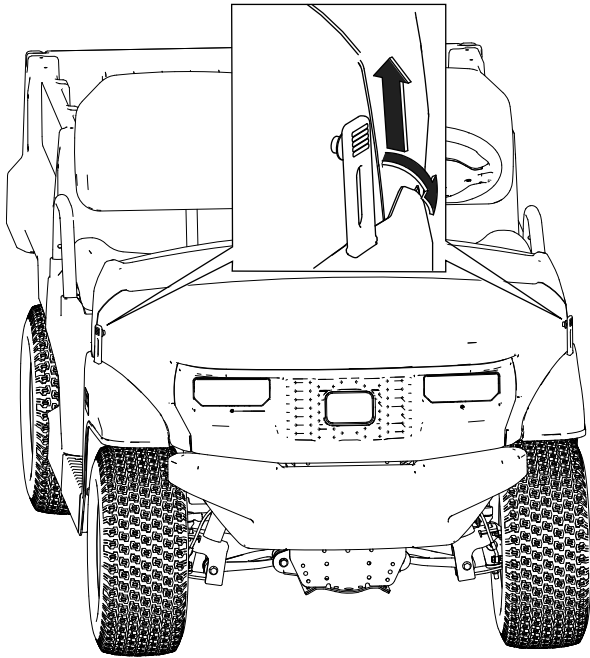

Figure 30
1. Lift up the handle of the rubber latches on each side of the hood (Figure 30).
2. Secure the hood by aligning the rubber latches onto the latch anchors on each side of the hood (Figure 30).